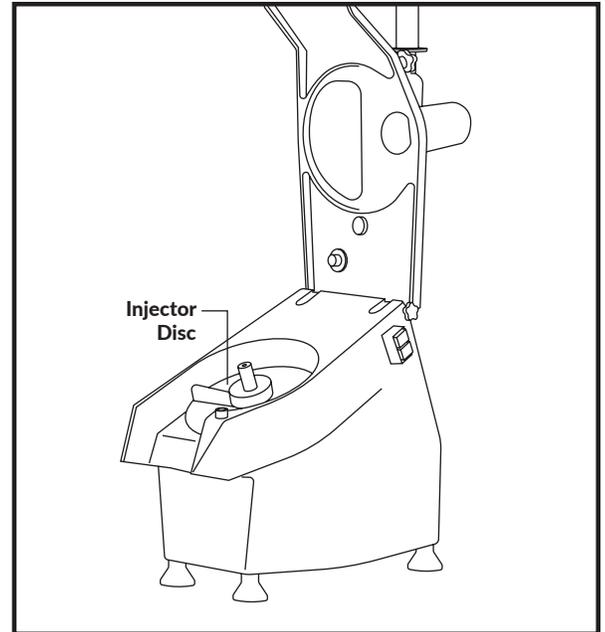

Fig. 4
1. Make sure the injector disc is in place. (Fig. 4)